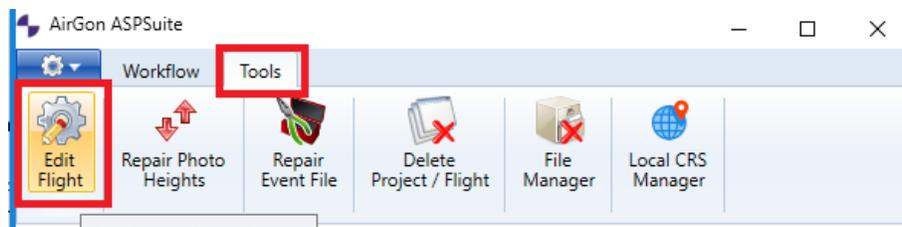

Figure 28 – Edit Flight
3. Before processing, click the Tools tab (Figure 28) and click *Edit Flight*.